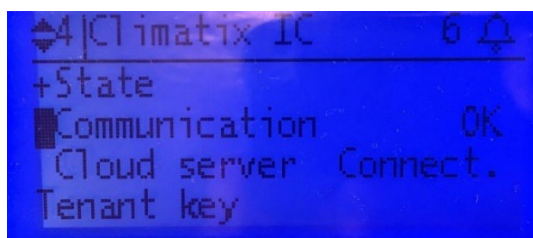

Figure no. 24
13. Using navigation wheel go up the menu and see if status of **Communication** is **OK** and **Cloud server** is **Connect**. (see figure no. 24)